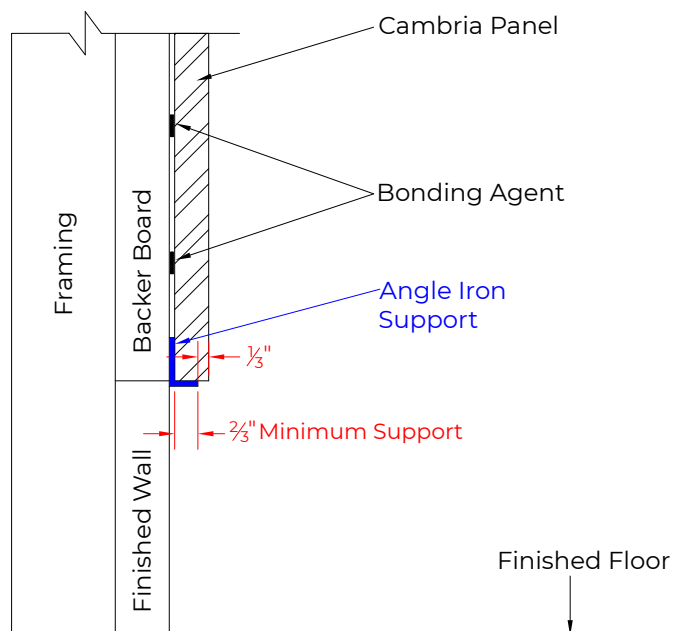

FIGURE 1
- b. At least $\frac{2}{3}$ of the thickness of the Cambria material must rest on the full bottom support or floor. See Figures 1 and 2.